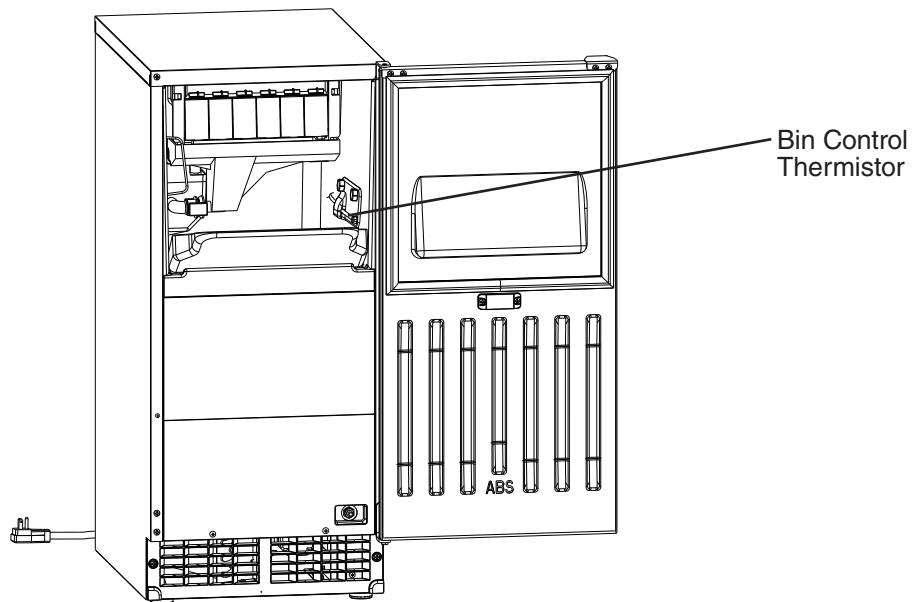

Fig. 34
- 11) During the first 5 minutes of the freeze cycle (compressor energized), confirm bin control operation by holding ice in contact with the bin control thermistor. See Fig. 34. The icemaker shuts down within 30 sec. Remove the ice. After 30 sec. the icemaker restarts the automatic ice making process.